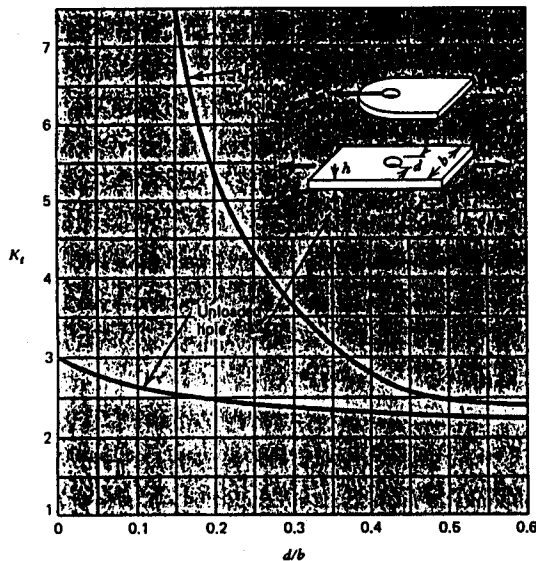

Figure 2
3. A cold-drawn rectangular steel bar (see Fig. 2) of 128 Bhn is 10 mm thick; 60 mm wide and has a center hole of 10 mm diameter. Estimate the maximum tensile force that can applied to the ends and have infinite life with 90 % reliability and a safety factor of 1.3 if the force varies between zero and a maximum value. (20%)